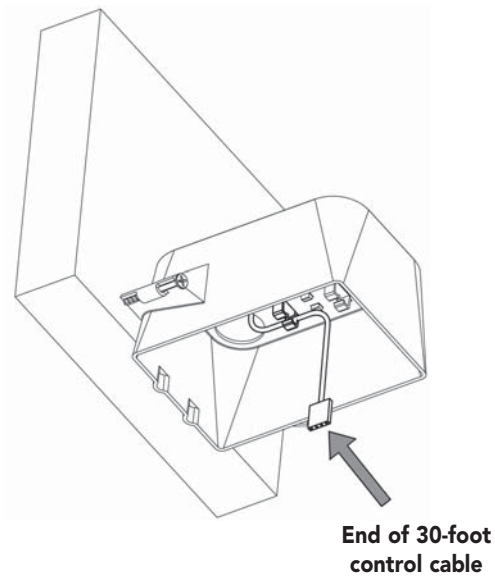

Figure 9
4. Route one end of the 30-foot control cable through the knockout into the junction box, and fasten it to one of the interior clips to hold it in place (**Figure 9**). Note that both ends of the control cable are the same.